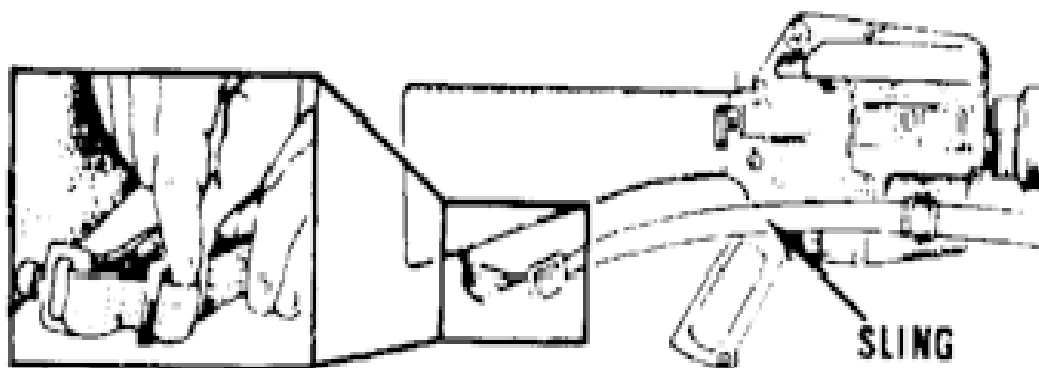

Figure E-39. Placing the sling.
p. Replace the sling (figure E-39).